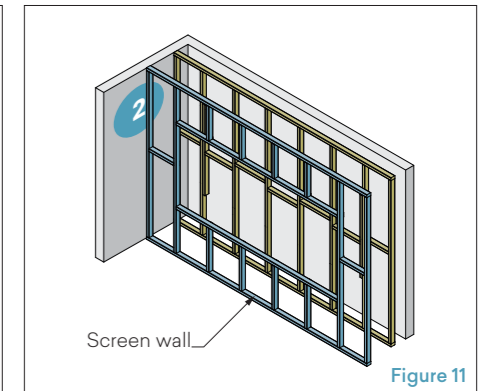

Figure 11
2. Erect a frame for the screen wall, and fix this to the floor, ceiling and adjoining walls. (Figure 11)